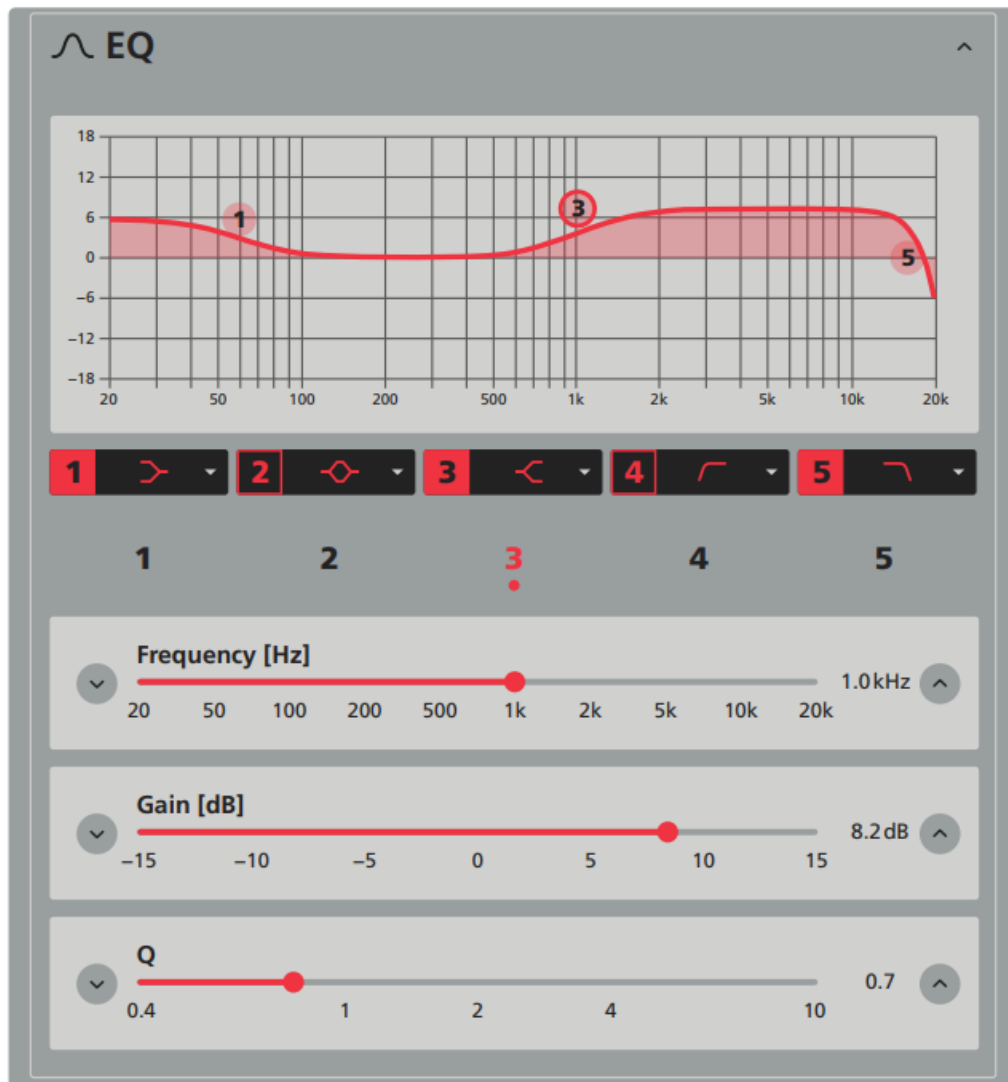

Fig. 10 View "Input – Analog – EQ"
The frequency and gain (depending on the filter type) of a filter can be roughly adjusted by directly moving the filter mark. A more precise setting is possible when using the sliders below the curve. In addition to Frequency and Gain, the filter quality (Q) can also be set here. The dot below the filter number shows the filter currently selected (in fig.10, filter 3 is selected). Furthermore, the filter mark in the frequency curve has a thicker edge.